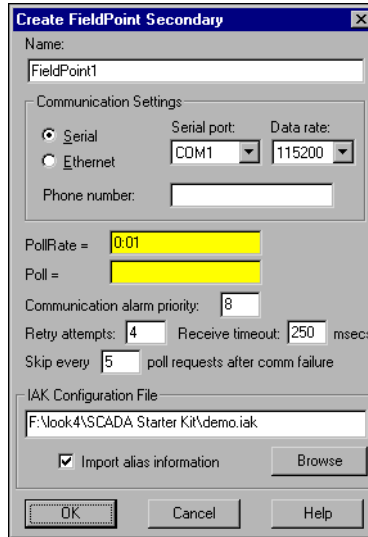

Figure 16. Create FieldPoint Secondary Dialog Box
- Fill out the **Create FieldPoint Secondary** dialog box as shown in Figure 16. The **IAK Configuration File** field directs the software to the location of the `.iak` file you created when you installed your FieldPoint hardware. Enter the path to the `demo.iak` file, or use the **Browse** button if you do not remember the complete path.